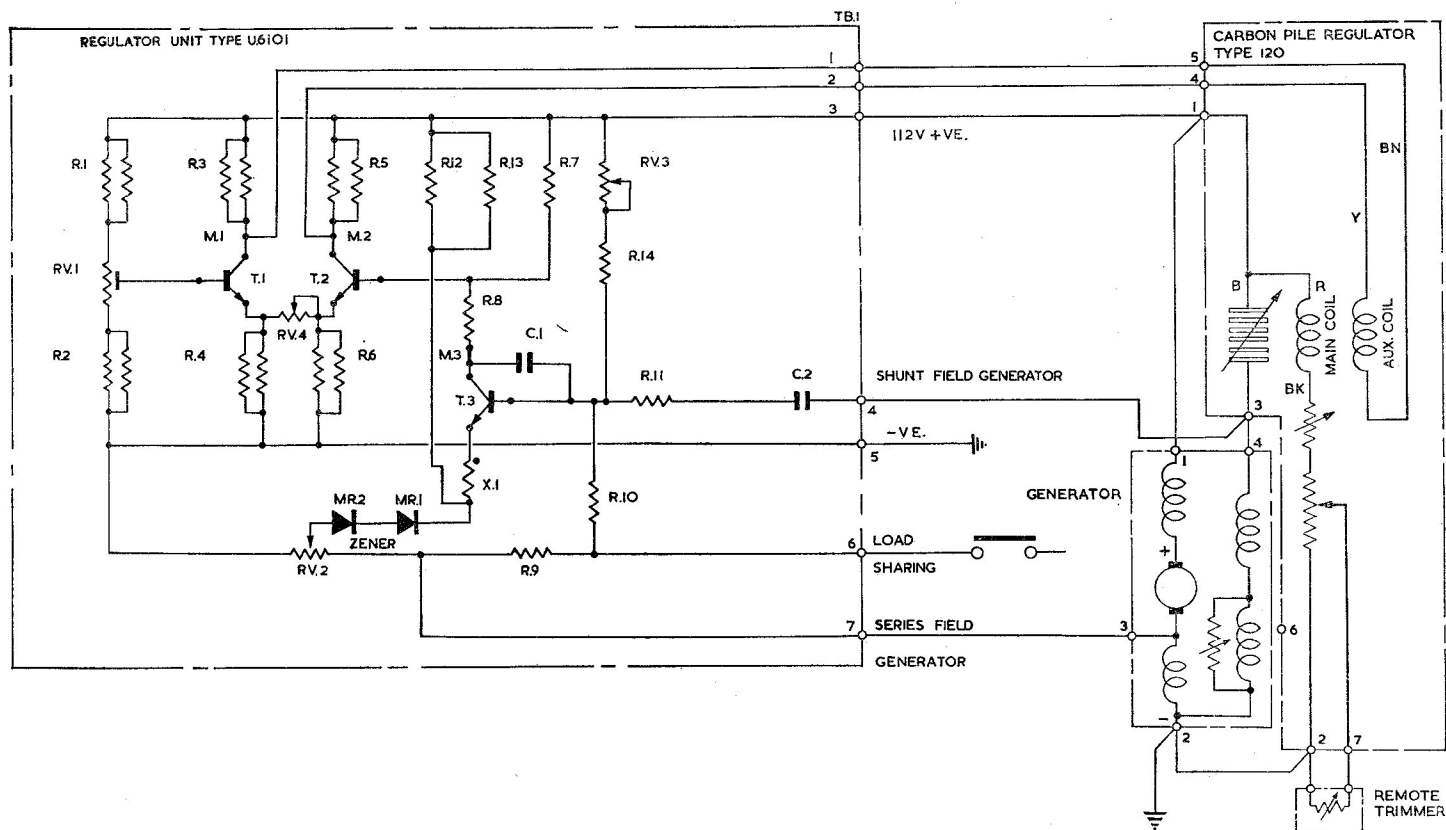

Fig. 4. Circuit diagram
12. Electrical connections are made via an 8-way terminal block, incorporating 4 B.A. terminals, numbered 1 to 8. The internal connections are shown in the circuit diagram (fig. 4).